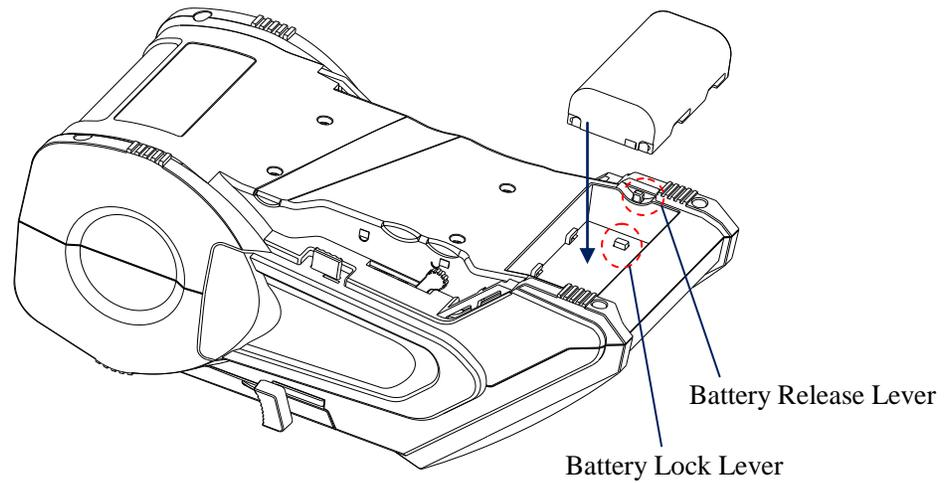

Figure 2-4
1. Place the battery into the V8i as shown (Figure 2-4)